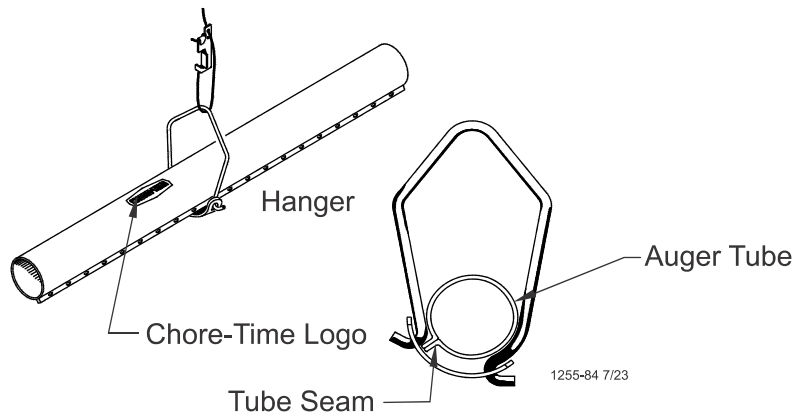

Figure 23. Hanger Installation
3. To achieve total feed drop out all along the system, the Chore-Time Logo should be centered at the crown of the tubes and all the Hangers should be installed as shown in **Figure 23.**